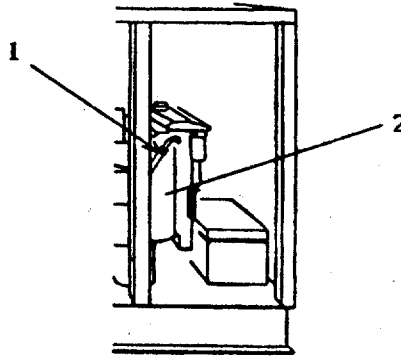

Figure 2-3. Engine Oil Level Dipstick.
2-3. ENGINE OIL LEVEL DIPSTICK (Figure 2-3). The oil level dipstick (1) is located on the side of the engine (2) and is used to check engine oil level when the engine is not running.